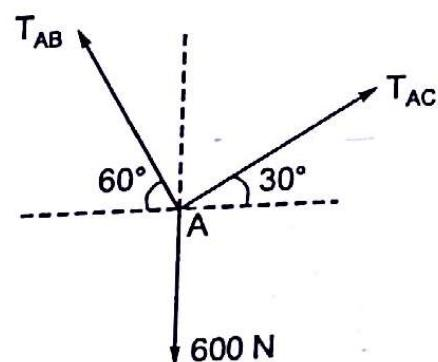

Fig. 3.71
- 3.18 If point A is in equilibrium under the action of the applied forces, the values of tension T_{AB} and T_{AC} are respectively (Fig. 3.71)